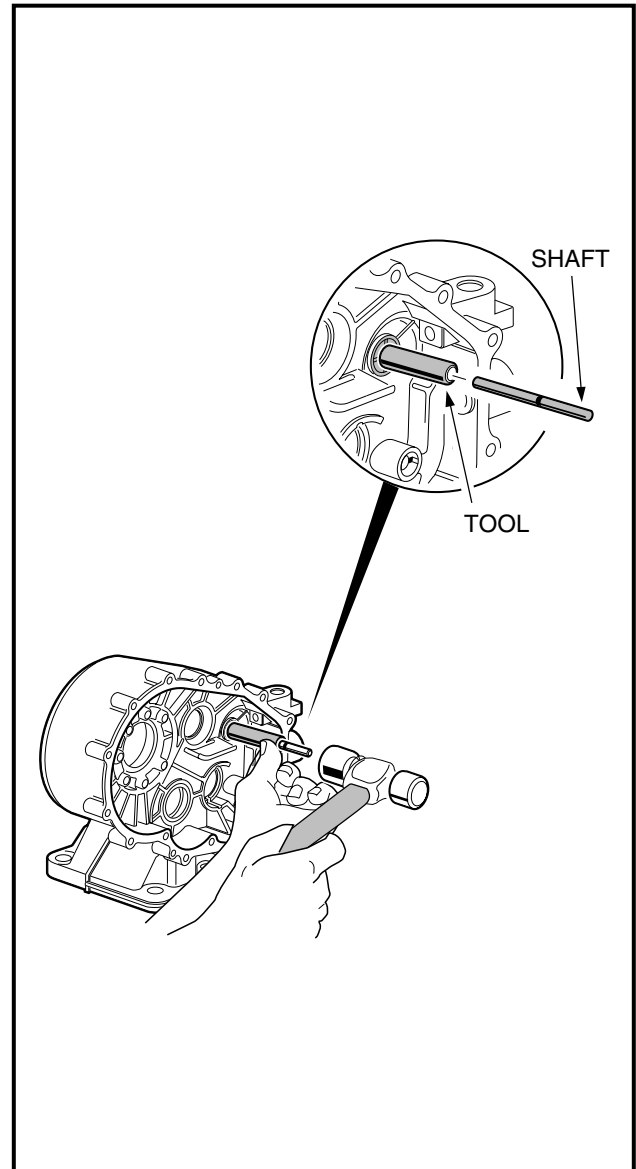

Figure 6-43 Governor Gear Shaft
3. Position the governor gear shaft installation tool (CCI P/N 101933101) over the shaft bore in the inside of the left (driver) side case and insert the governor gear shaft into the tool, long end (from the groove) first (**Figure 6-43, Page 6-21**). Make sure the shaft is started into the bore and then, using a plastic or rubber hammer, carefully tap the governor gear shaft into the bore until the end being tapped is flush with the end of the tool. Remove installation tool.